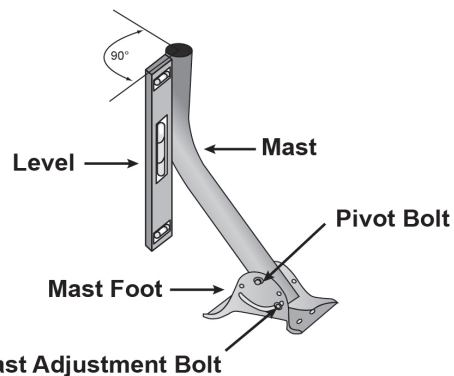

Figure 1. DISH 500+ with Optional DISH 1000+ Antenna System Overview
This antenna assembly includes enhanced peaking controls for the azimuth and elevation settings that provide the ability to more easily obtain an optimal peaking of the antenna system. Refer to Figure 1 on page 2 for more details on the enhanced peaking controls.
- 4. Align mast vertically.** Align the top part of the mast so that it is absolutely vertical. If the top part of the mast is off vertical by only a few degrees, it will be difficult or maybe even impossible for you to find the satellites. Take at least two readings with a level, on the upper mast, that are 90 degrees apart from one another (see Figure 1).
- 5. Assemble the antenna assembly without LNBF.** Assemble the antenna assembly as shown in Figure 1, except do not attach the LNBF assembly at this time.
Use the steps below while referring to Figure 1, page 2 for this installation.
1. Mount LNBF onto LNBF support. Mount the LNBF assembly on the LNBF support as shown on Figure 1 (see page 2).